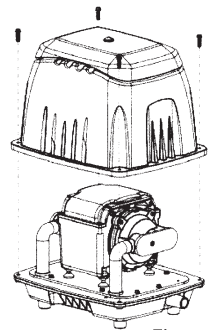

Figure 2
- A. Loosen the four screws around the aluminium upper cover, and take the cover off. (As shown in figure 2)